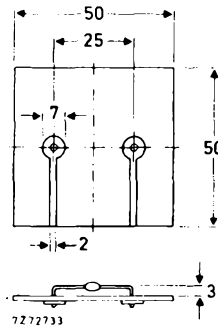

Fig. 2 Mounted on a printed-circuit board.
| $T_{amb} = 55\text{ }^\circ\text{C}$ ; Fig. 2   | $I_{F(AV)}$ max. |             | 0,8 | A                |
2. Thermal resistance from junction to ambient when mounted on a 1,5 mm thick epoxy-glass printed-circuit board; Cu-thickness  $\geq 40\text{ }\mu\text{m}$ ; Fig. 2